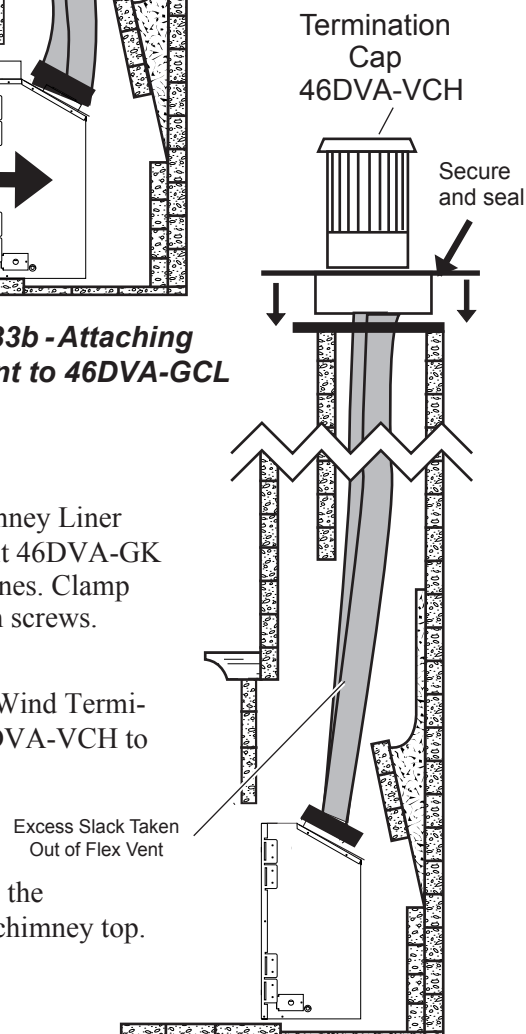

**Figure 33c - Pulling On Excess Flex Vent**
5. Have someone pull up on the excess flex vent (see Figure 33c). Temporarily attach flex vent to the top of the chimney. Remove any slack in the flex vent.